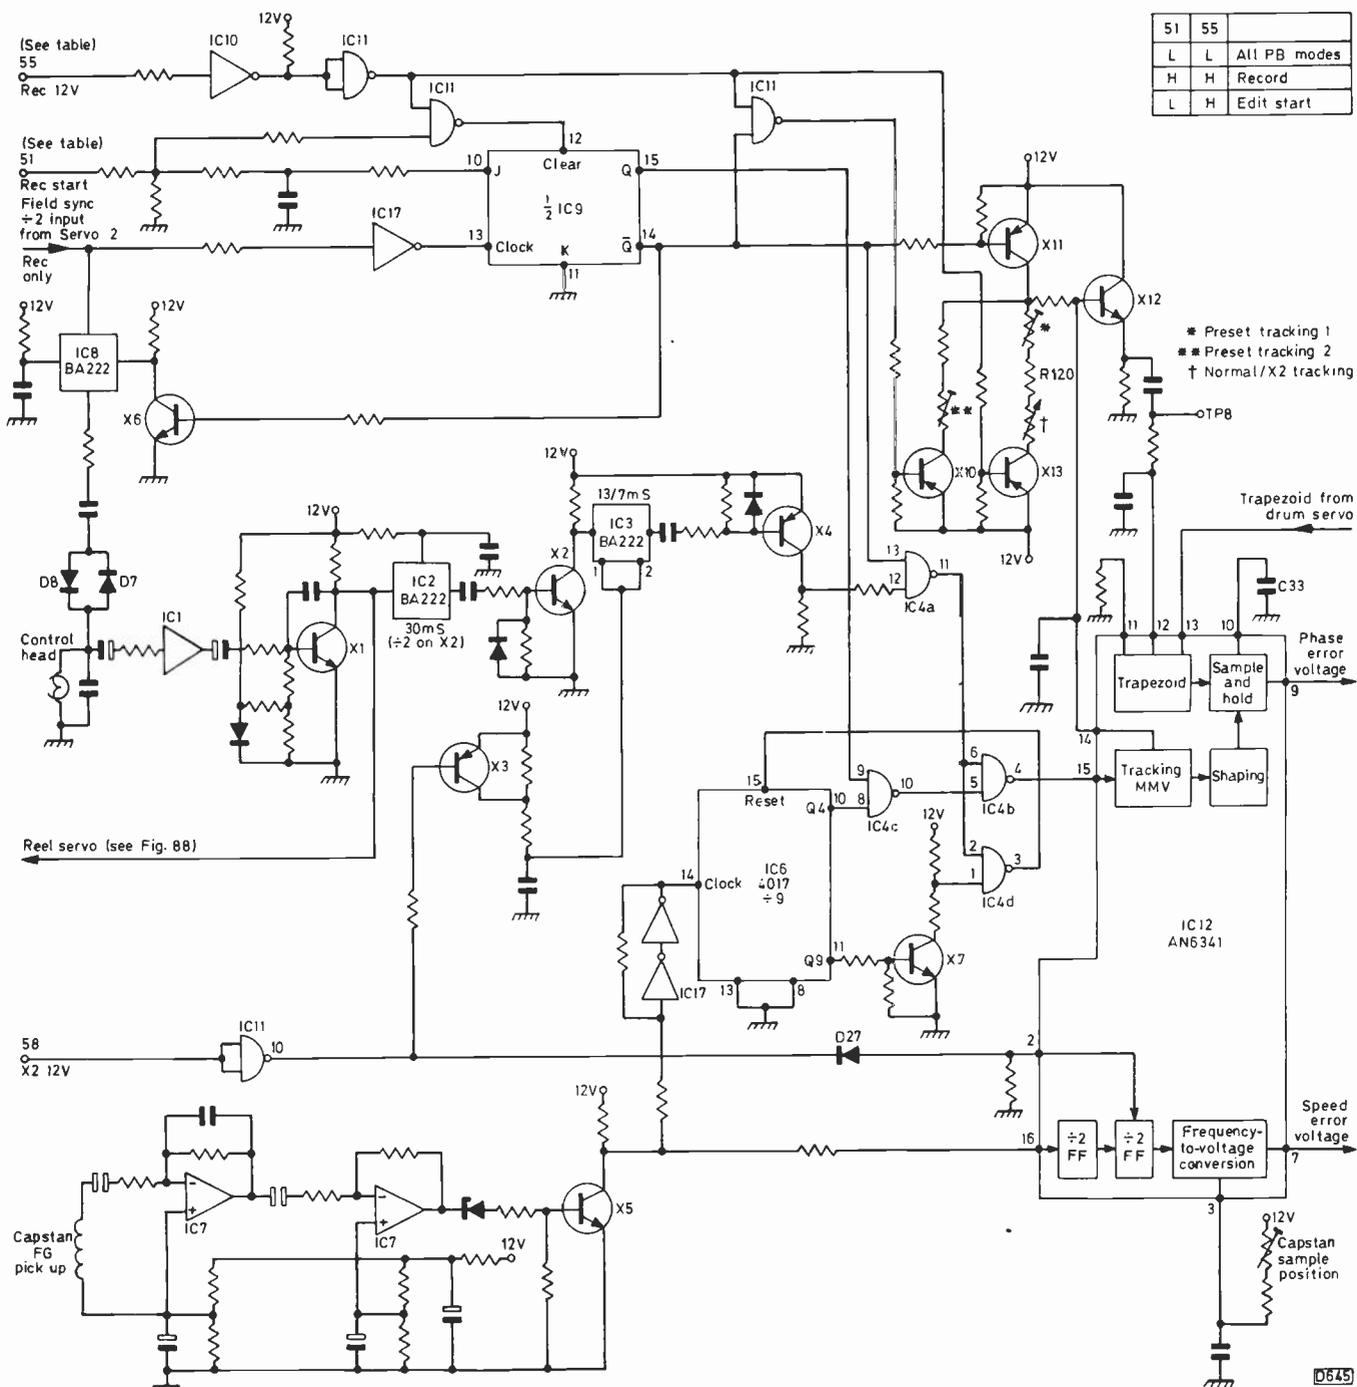

Fig. 87: Capstan servo – the “front end”.
The “front end” of the capstan servo is shown in Fig. 87. During normal playback it operates as follows. First the speed control loop. The 225Hz capstan frequency gear (FG) signal is amplified by IC7 and X5 and presented to pin 16 of IC12 which contains two divide by two flip-flops followed by a frequency-to-voltage converter that works on the same principle as the arrangement used in the drum servo. The speed error voltage is produced at pin 7 of IC12 and then goes to pin 6 of IC13 as previously mentioned. During normal playback D27 is biased off so that the second flip-flop is inoperative. In the double speed mode D27 is forward biased since pin 10 of IC11 goes low: the FG signal, now at 450Hz, is divided by two a second time to restore the correct conditions in the servo.
This is how it's done, using the items we've already considered in Fig. 87. Remember that the drum servo is unaltered, remaining in its normal record mode. We're recording and press pause. The tape winds back 25-30 frames then stops. When we restart the recording, the ESC sequence starts – connection 55 stays high, but connection 51 stays low for 12 frames then goes high to put the machine back into normal record. Nothing is recorded on the tape during the ESC period. The drum servo locks up to the new input signal, so that it's well and